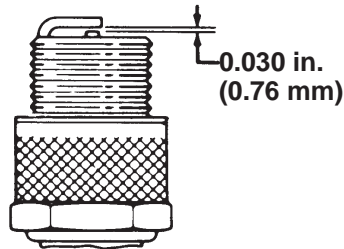

Figure 38
4. Set the air gap between the center and side of the electrodes at 0.030 in. (0.76 mm) (Fig. 38) Install the correctly gapped spark plug w/gasket seal, and tighten the plug to 200 in.-lb. (23 N·m). If a torque wrench is not used, tighten the plug firmly.